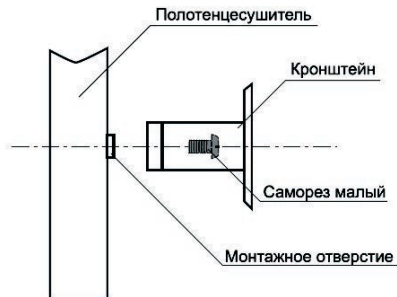

Рис. 2
3. Drill the holes for wall brackets and connection box (see figure 2).